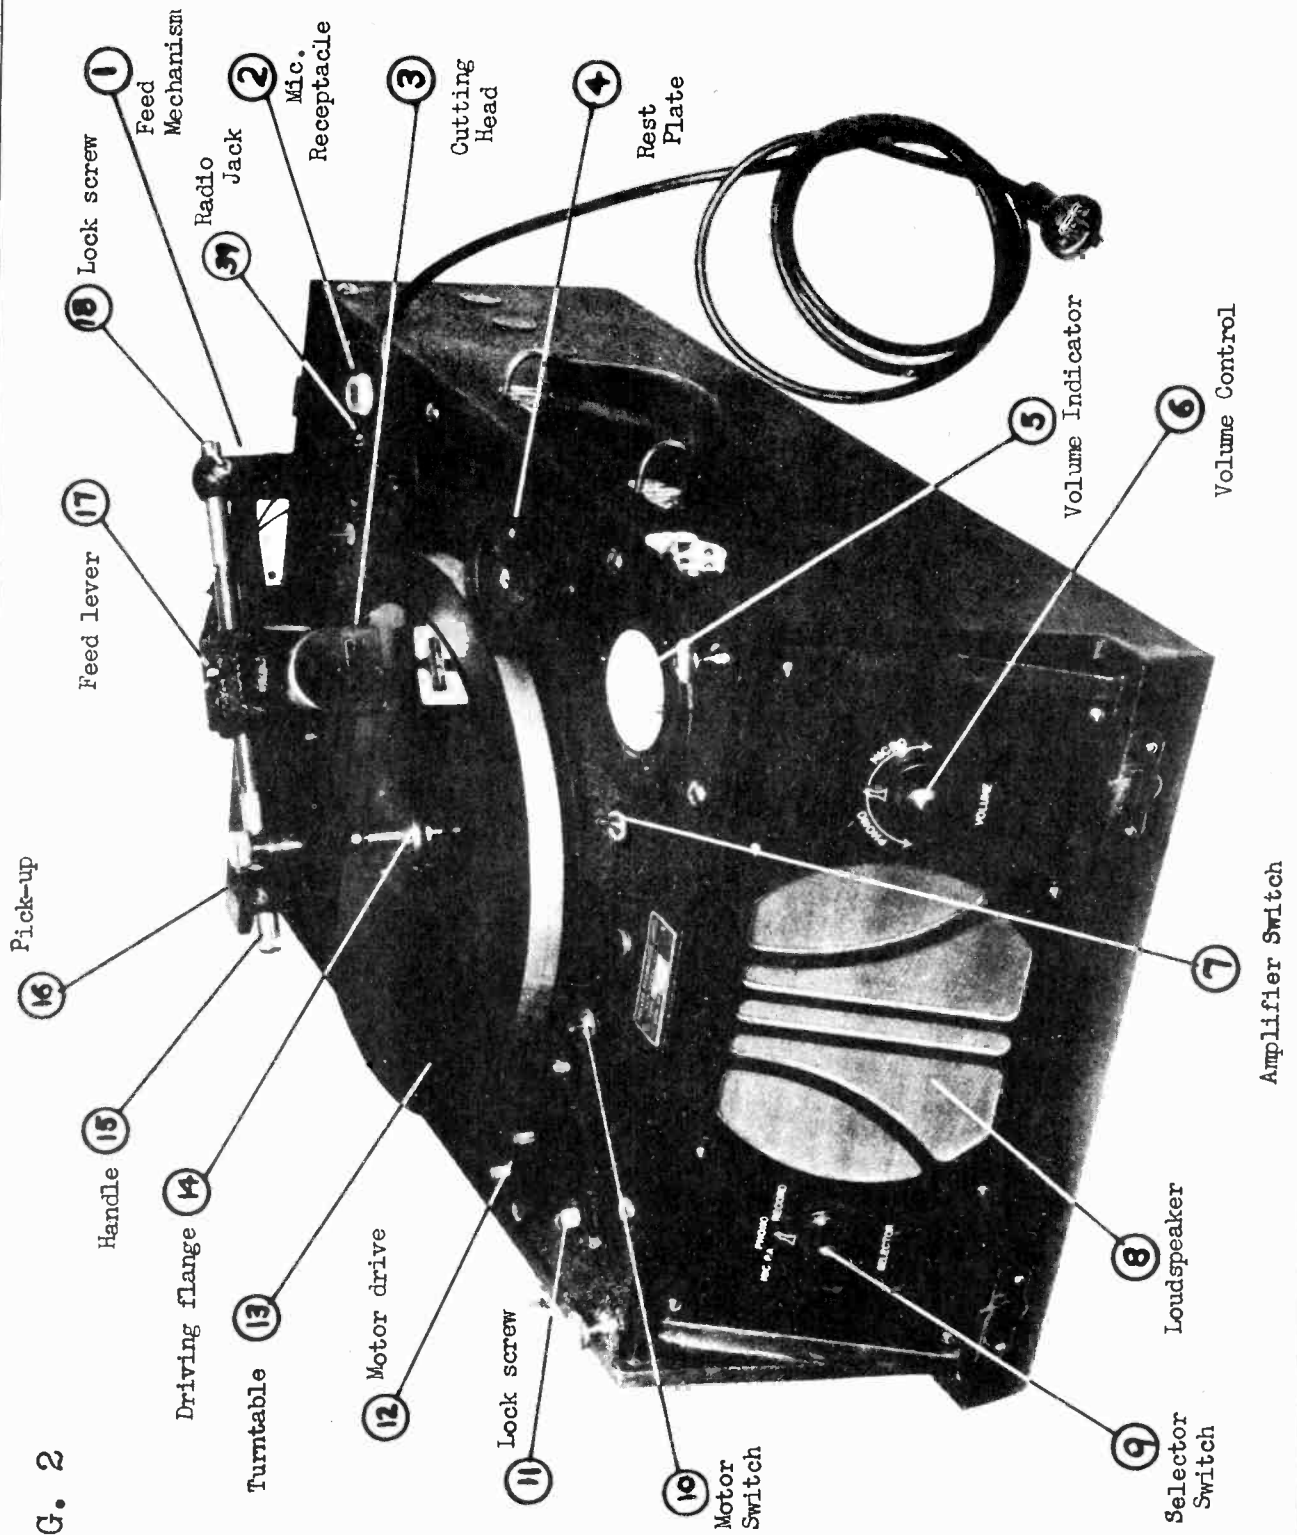
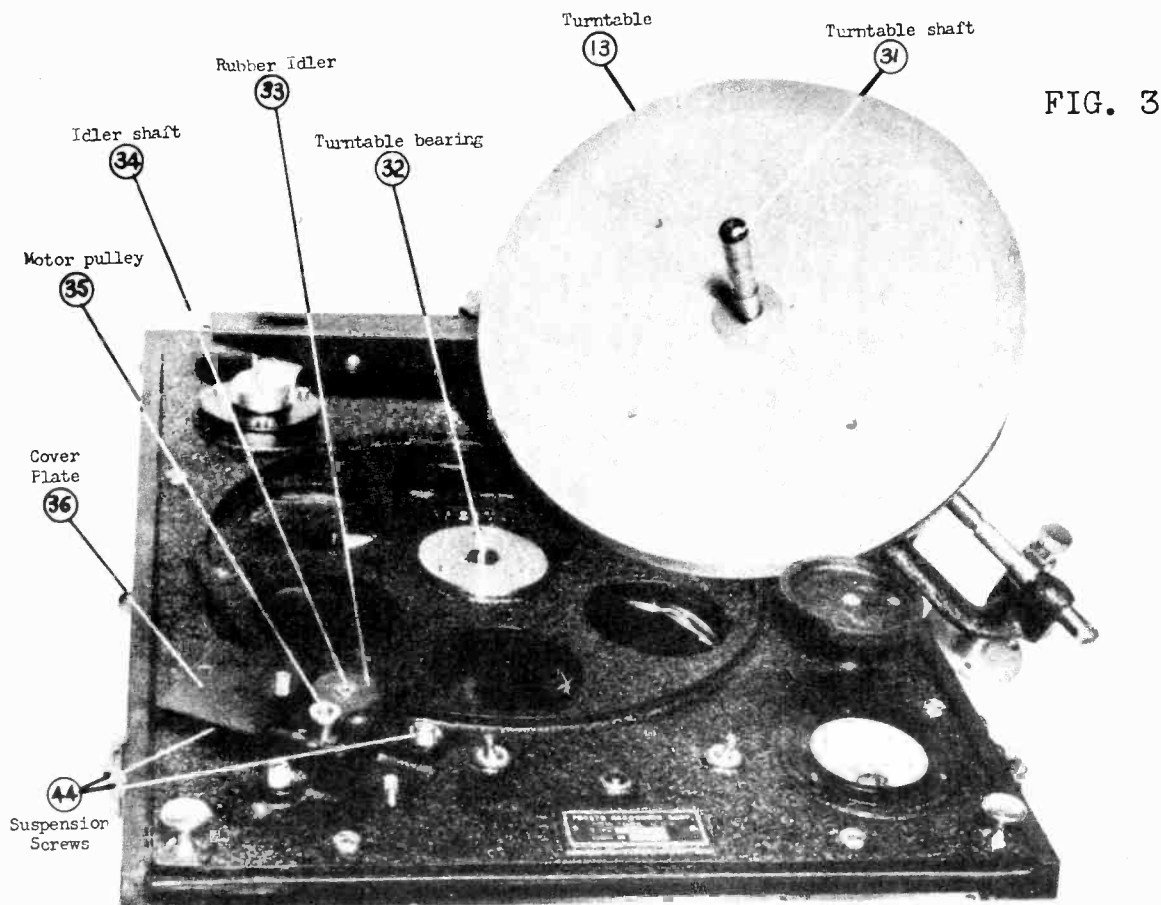

FIG. 2
FIG. 3
Plug the microphone plug into the 3 way polarized receptacle (2) Fig. 2, located at the rear right of the top panel. The receptacle has a red mark on one prong and this prong should coincide with the red marked prong on the plug. After this plug is inserted it should be locked by tightening the lock nut located on the plug.
In the front left hand corner is a knurled lock screw (11) which mechanically locks and unlocks the motor. The motor is mounted in live rubber and the shaft of the motor (35) Fig. 3 drives against a rubber idler (33) Fig. 3 which in turn drives against the outside rim of the turntable. The motor is therefore free to swing freely. If allowed to swing in this manner in transportation the machine will be damaged. When the machine leaves the factory the lock screw (11) Fig. 2 is turned to the locking position, that is turned to the right as far as it will go. The motor is now held very rigidly and will not rock in transportation. To un-lock the motor, turn the knurled screw (11) Fig. 2 to the left as far as it will go. The motor is now ready for use, and throwing the motor switch (10) to the "on and off" positions will start and stop the turntable. Please note that if the machine is to be moved at all, the motor should be locked.
Place disc on turntable. Remove the thumb screw that fastens the feed mechanism (1) Fig. 2 to the rest plate, (4). Now, grasp the handle (16) lift up, and swing the mechanism to the left and place it over the center spindle of the turntable so that the three screws that are spaced equidistant from the spindle on the turntable match the three holes in the driving flange (14) of the feed mechanism. FOR FURTHER NOTES ON RECORDING ON ACETATE AND ALUMINUM, SEE MODEL EU-7